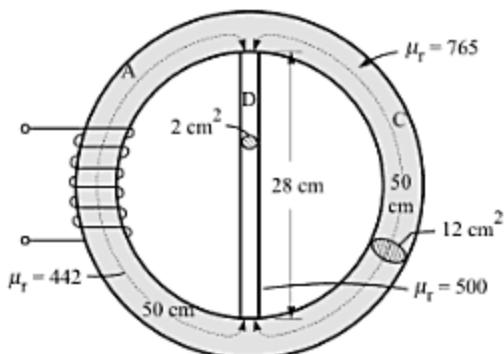

Fig. B-12
- B-70.** A circular soft iron ring with a cross-bar of silicon steel fitted into it is shown in Fig. B-12 with the relevant data mentioned. Estimate the required ampere turns to be applied to one-half of the ring to produce a flux density of  $1.5 \text{ Wb/m}^2$  in the other half.